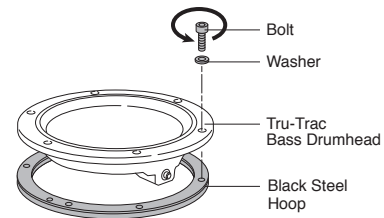

Fig.9
1. Unscrew the bolts on the Tru-Trac Bass Drumhead using the provided Hex wrench and remove the black steel hoop (Fig. 9).